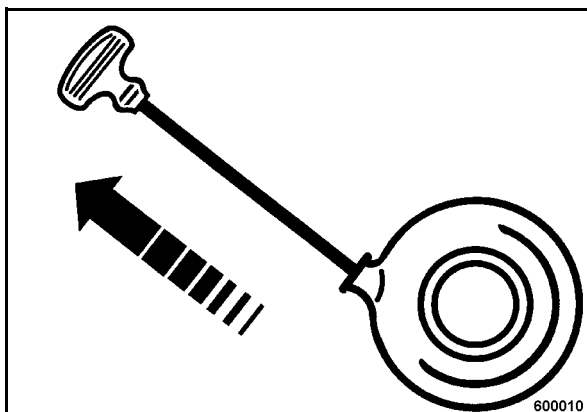

Fig. 21
- Pull the rope by the starter handle quickly and powerful as far out as possible (Fig. 21).